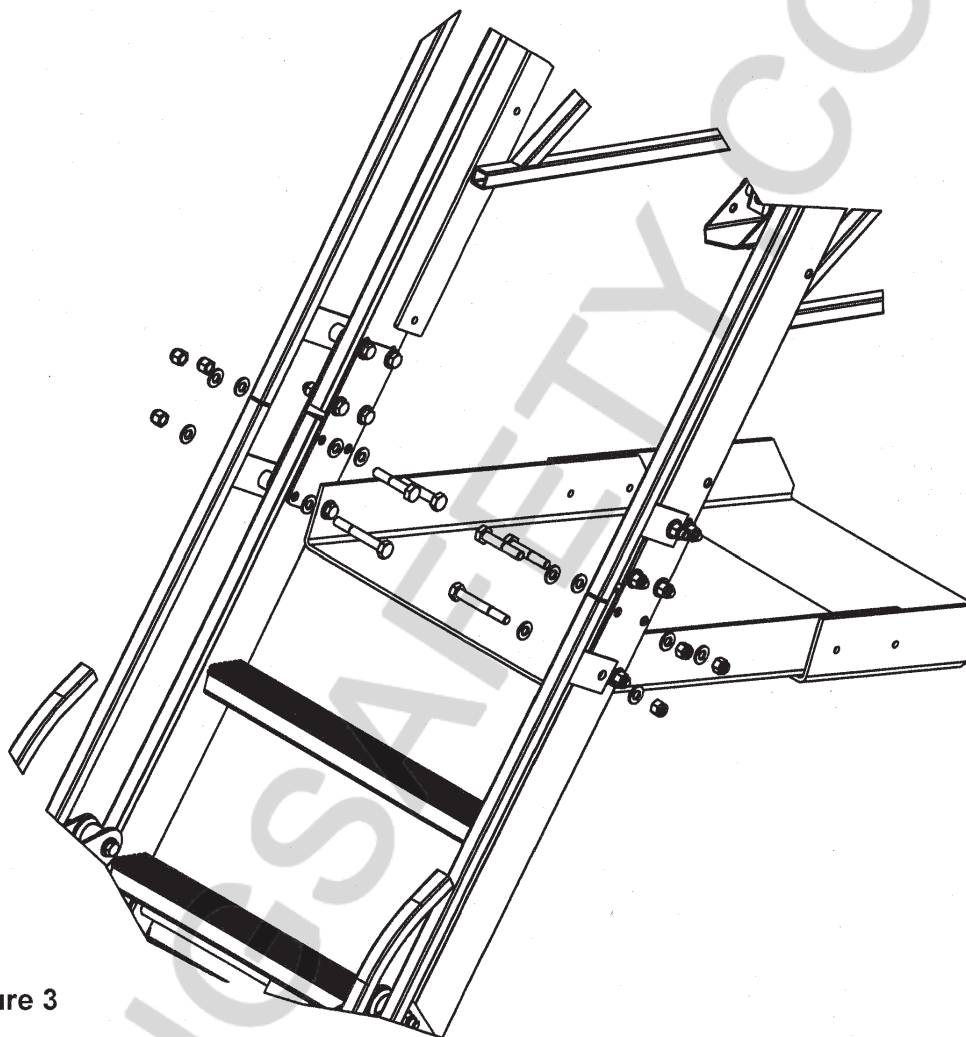

Figure 3
3. With the cage and extensions fully into position, bolt into place (Figure 3).